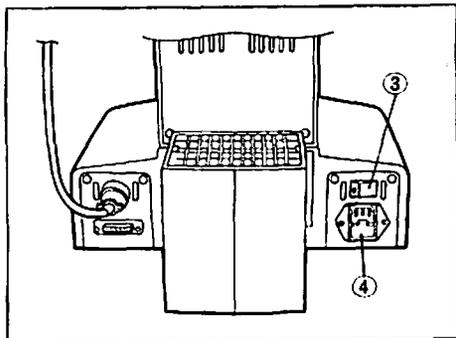

Fig. 45
1. Turn the voltage adjustment knob ① on the right-hand side of the microscope base towards the front ("low voltage" position) and turn on the power switch ② on the rear panel. (Fig. 45)